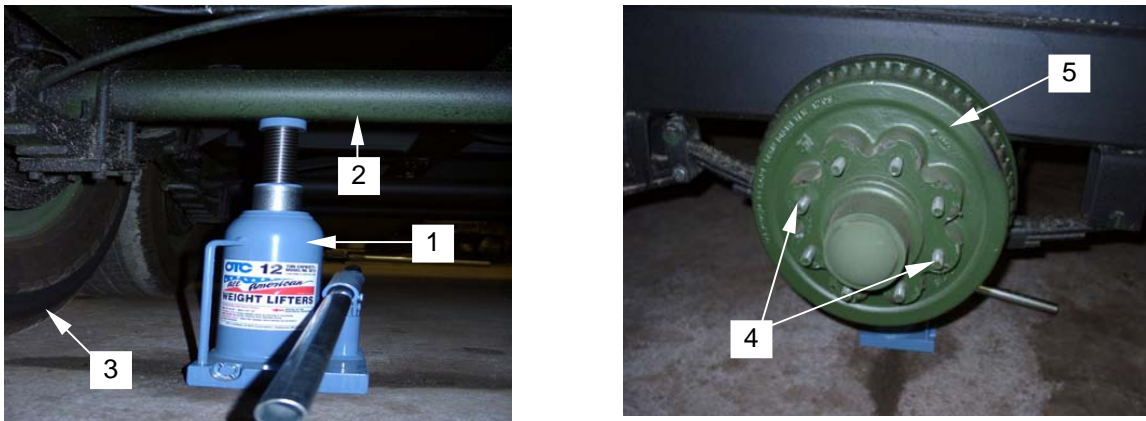

Figure 3. Lifting the Axle and Removing the Rim and Tire
6. Place the bottle jack (**figure 3, item 1**) (stored in toolbox) under the axle (**figure 3, item 2**) to be raised.
7. Raise the axle only high enough to clear the tire (**figure 3, item 3**) off the ground.
9. Remove the rim and tire from the studs (figure 3, item 4) on the drum (figure 3, item 5).